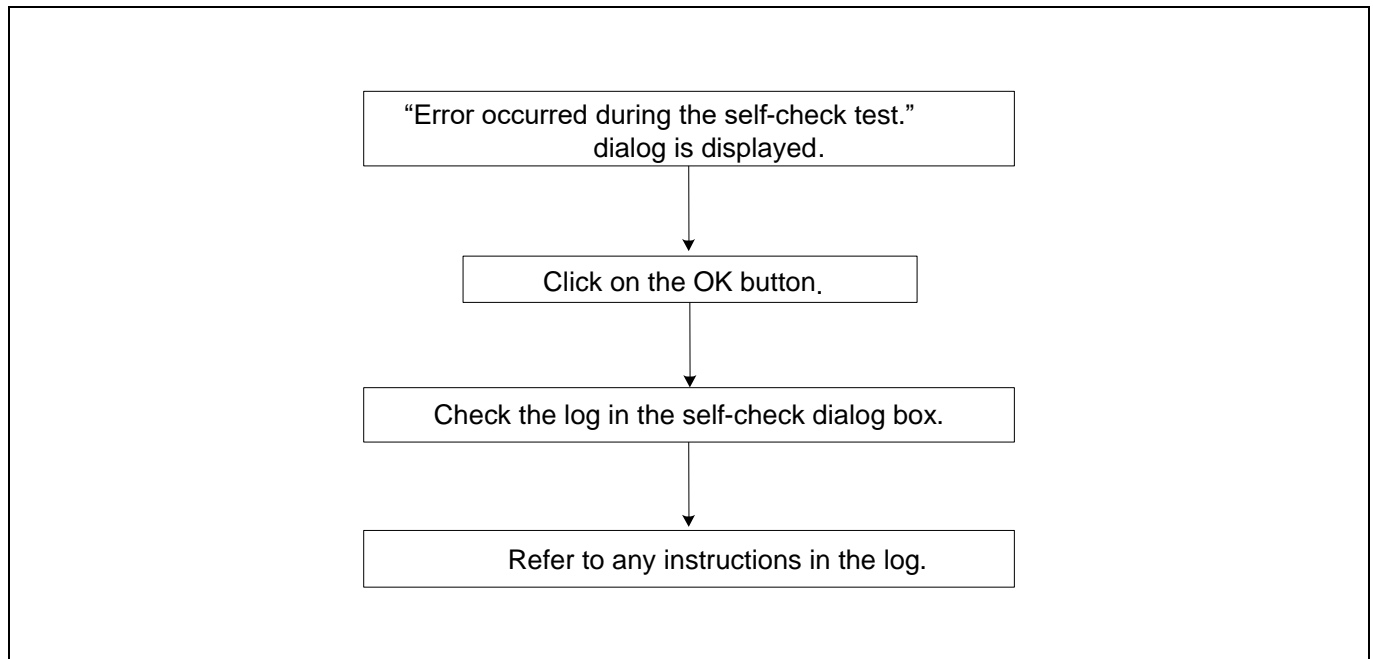

Figure 6.2 Flowchart for Checking of an Error in Self-Checking
- (1) Re-check the connection between the E100 emulator main unit and the MCU unit.
- (2) Download the proper firmware again.
- (3) Check the error log from self-checking by the debugger software, and refer to the instructions given therein (see Figure 6.2).